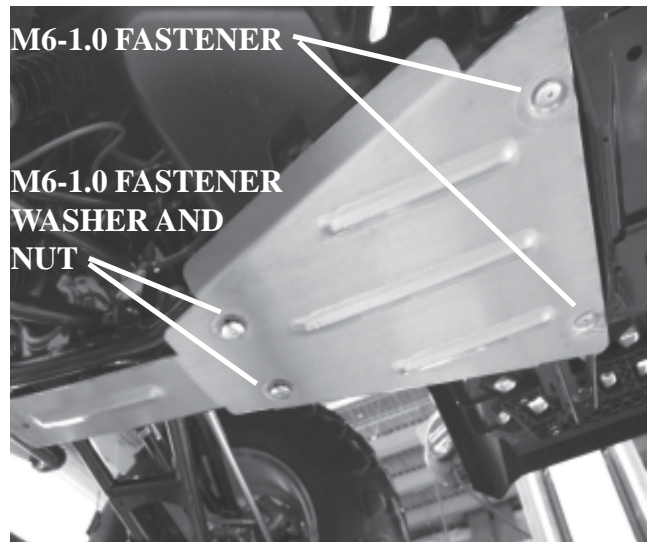

Figure 5
5. Place the front skid plate into position as shown in figure 5. Place the new skid plate on directly over the factory skid plate. Use 2 M6-1.0 flange head torx screws (B2) to secure the rear two holes of the skid plate.